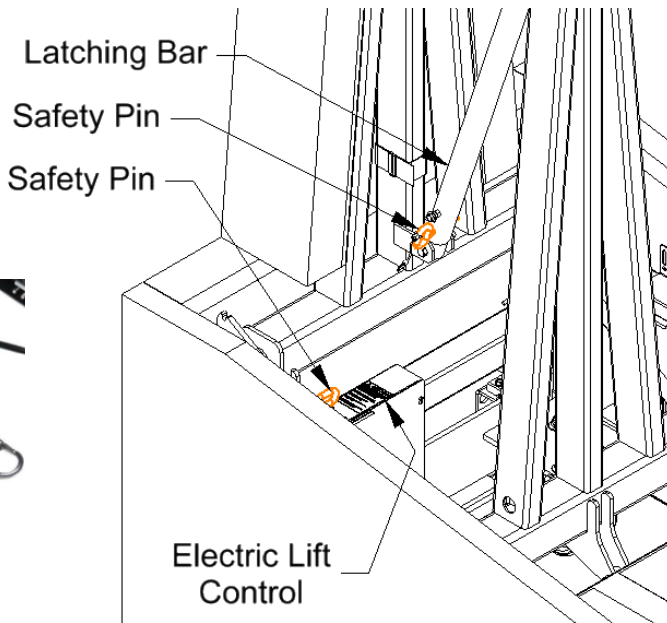

Figure 36
3. When complete, return the Safety Pin to the Latching Bar as shown in figure 36.